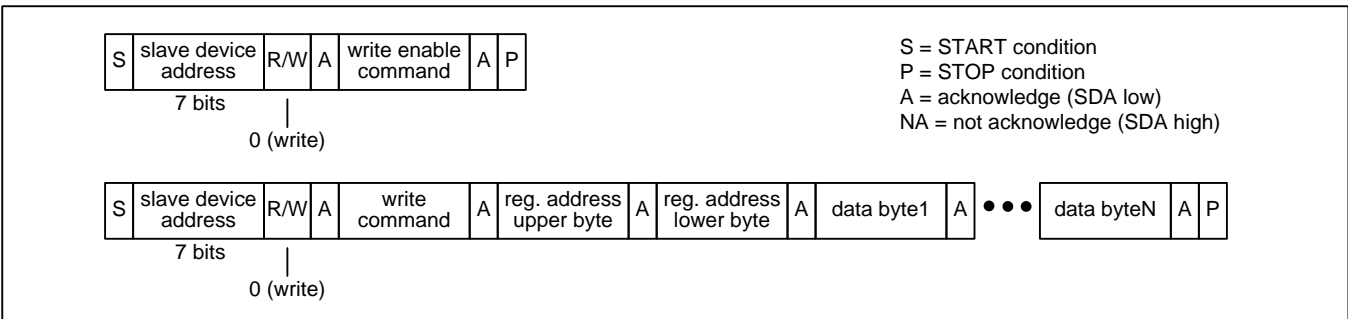

Figure 11 - I2C EEPROM Write Transaction Functional Timing (ZL30265 and ZL30267 Only)
**EEPROM Writes (ZL30265 and ZL30267 Only).** The EEPROM memory is accessible when the **EESEL** bit is 1. The bus master first does an I2C write to transmit the SPI Write Enable command (see Table 3) to the device. The bus master then does an I2C write to transmit data to the device as described in the Register Write Transactions paragraph above. See Figure 11.